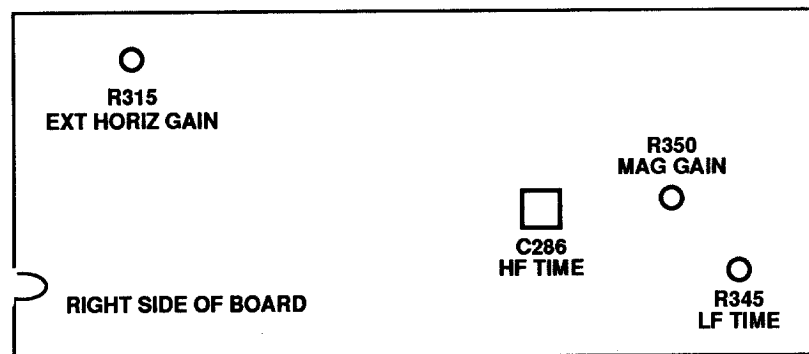

Figure 3. Test instrument - adjustment locations.
- (1) Connect oscilloscope calibrator **SOURCE/MEASURE CHAN 1** to **TI EXT HORIZ AMP**.
- (2) Set oscilloscope calibrator **VOLTAGE** output for .5 V, 1 kHz.
- (3) Adjust **TI POSITION** control to position dots to the extreme right and left vertical graticule lines.
- (4) Adjust dual trace amplifier **CH 1 POSITION** control to vertically center the dots.
- (5) Adjust oscilloscope calibrator **EDIT FIELD** knob for 10 divisions of horizontal deflection on oscilloscope. If oscilloscope calibrator **err** display does not indicate within $\pm 3\%$, perform **b** below.
b. Adjustments. Adjust oscilloscope calibrator **EDIT FIELD** knob for a 0.0% **err** display indication. Adjust R315 **EXT HORIZ GAIN** (fig. 3) for a 10 division horizontal deflection on oscilloscope (R).
(1) Release TI **SWP MAG** pushbutton (out), set **SECONDS/DIV** switch to **1 m** and oscilloscope calibrator **MARKER** output for 1 mS/D. If necessary, adjust oscilloscope calibrator **EDIT FIELD** knob for a 0.0% **err** display indication.
(2) Adjust TI **POSITION** control to align 1st time marker with 1st vertical graticule line (extreme left). Adjust R345 LF TIME (fig. 3) to align one time marker per division (R).
(3) Press TI **SWP MAG** pushbutton and adjust TI **POSITION** control to align 1st time marker with 1st vertical graticule line (extreme left). Adjust R350 MAG GAIN (fig. 3) to align one time marker per division (R).
(4) Release TI **SWP MAG** pushbutton (out), set **SECONDS/DIV** switch to **.5 μ** and set oscilloscope calibrator **MARKER** output for .5 μS/D.
(5) Adjust TI **POSITION** control to align 1st time marker with 1st vertical graticule line (extreme left). Adjust C286 HF TIME (fig. 3) to align one time marker per division (R).